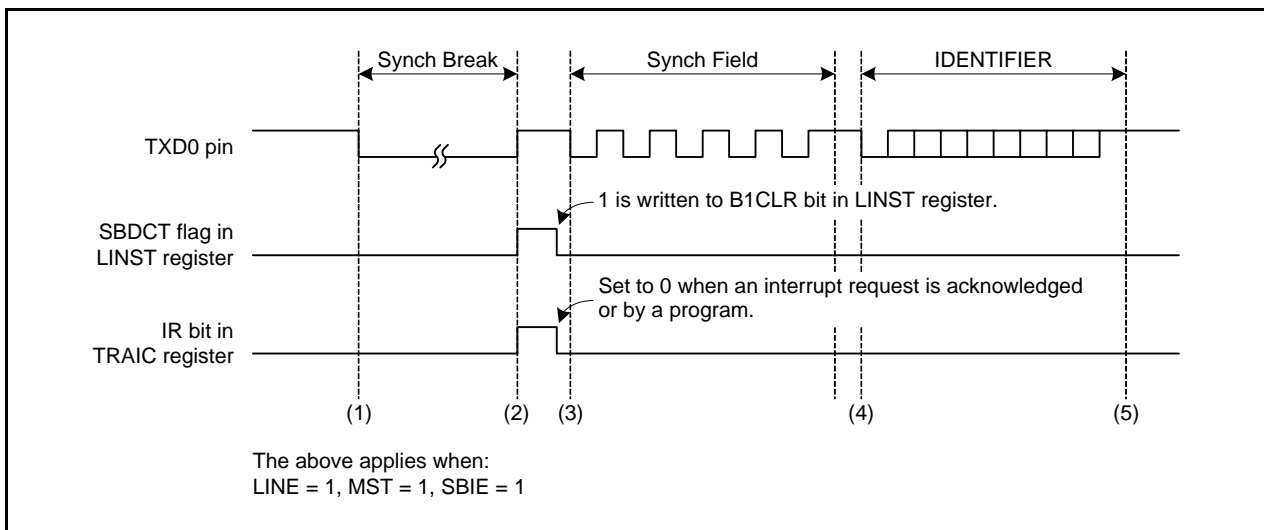
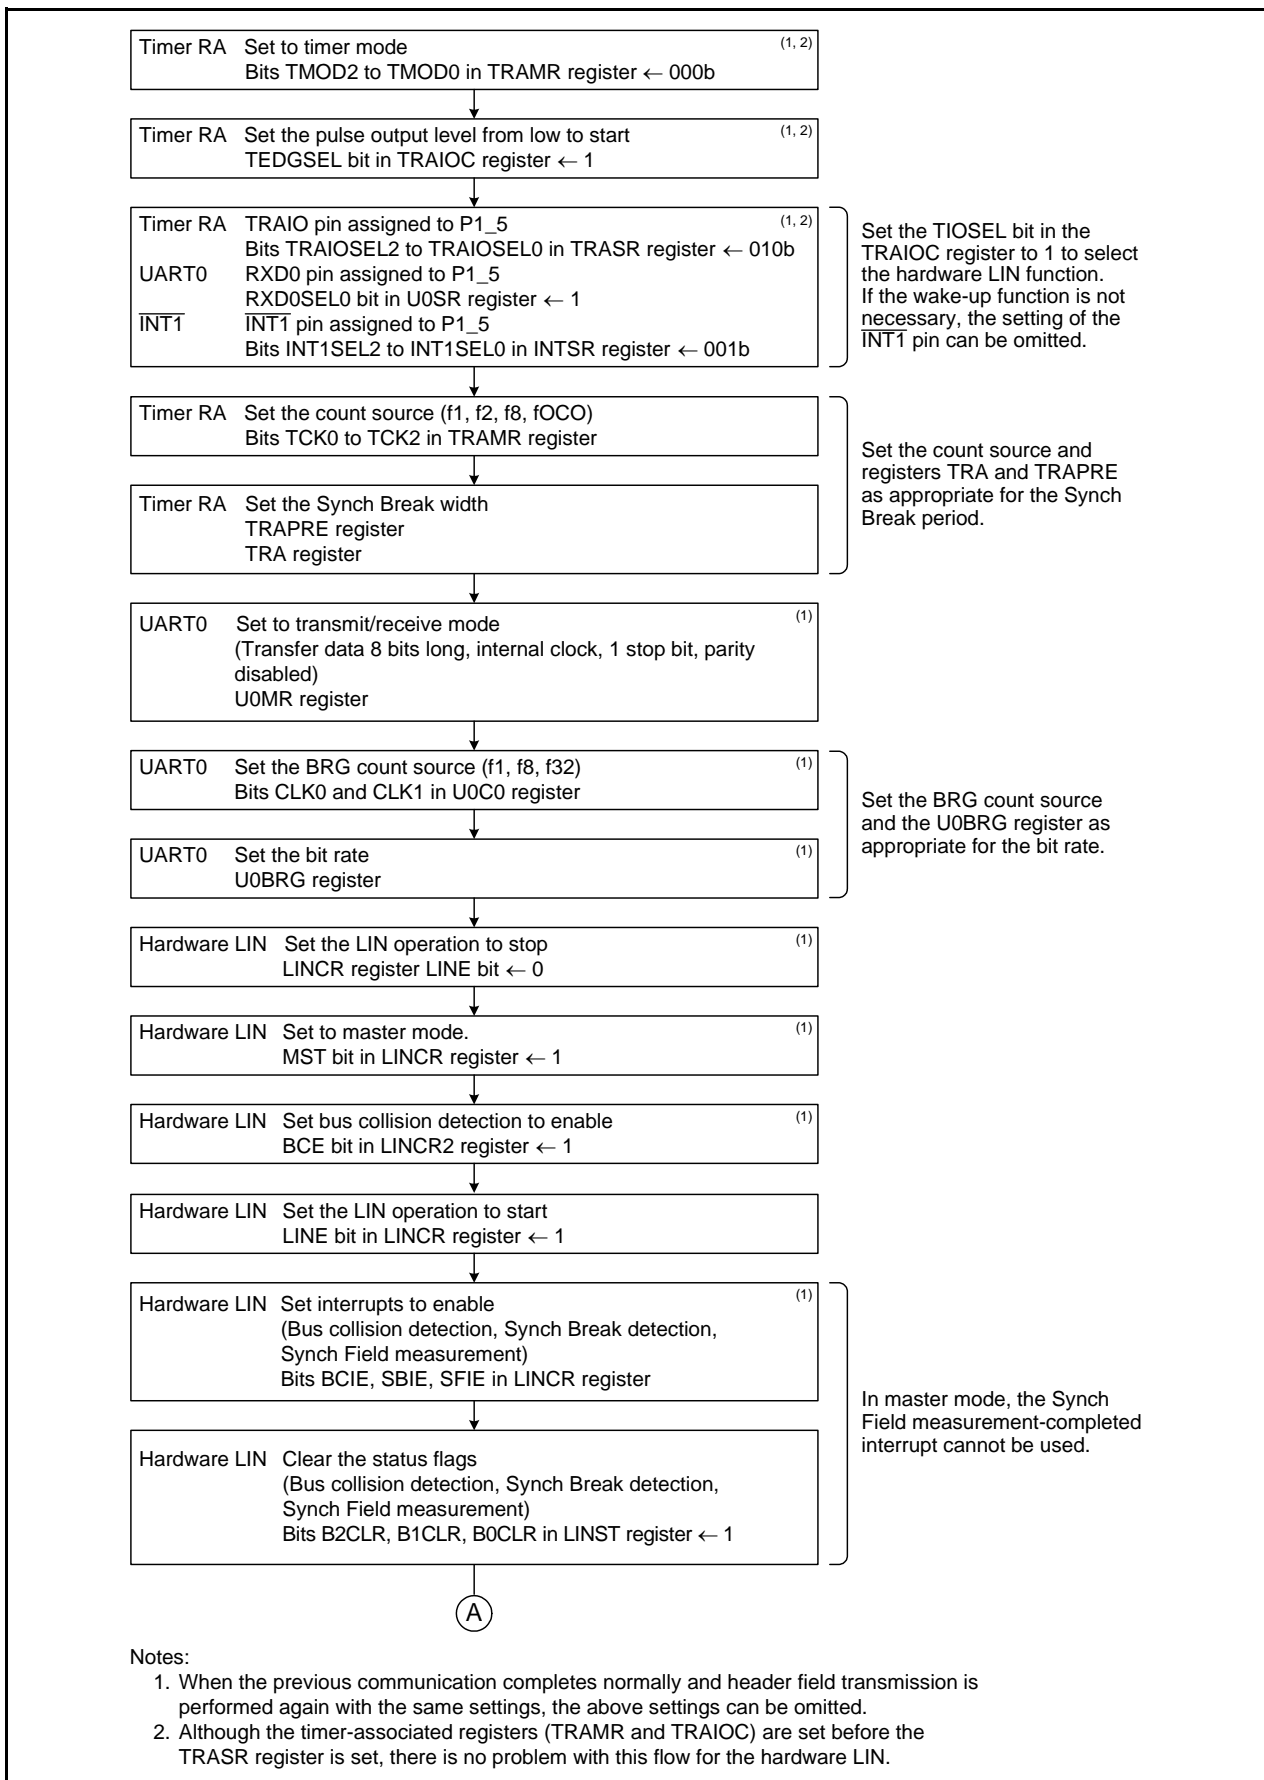
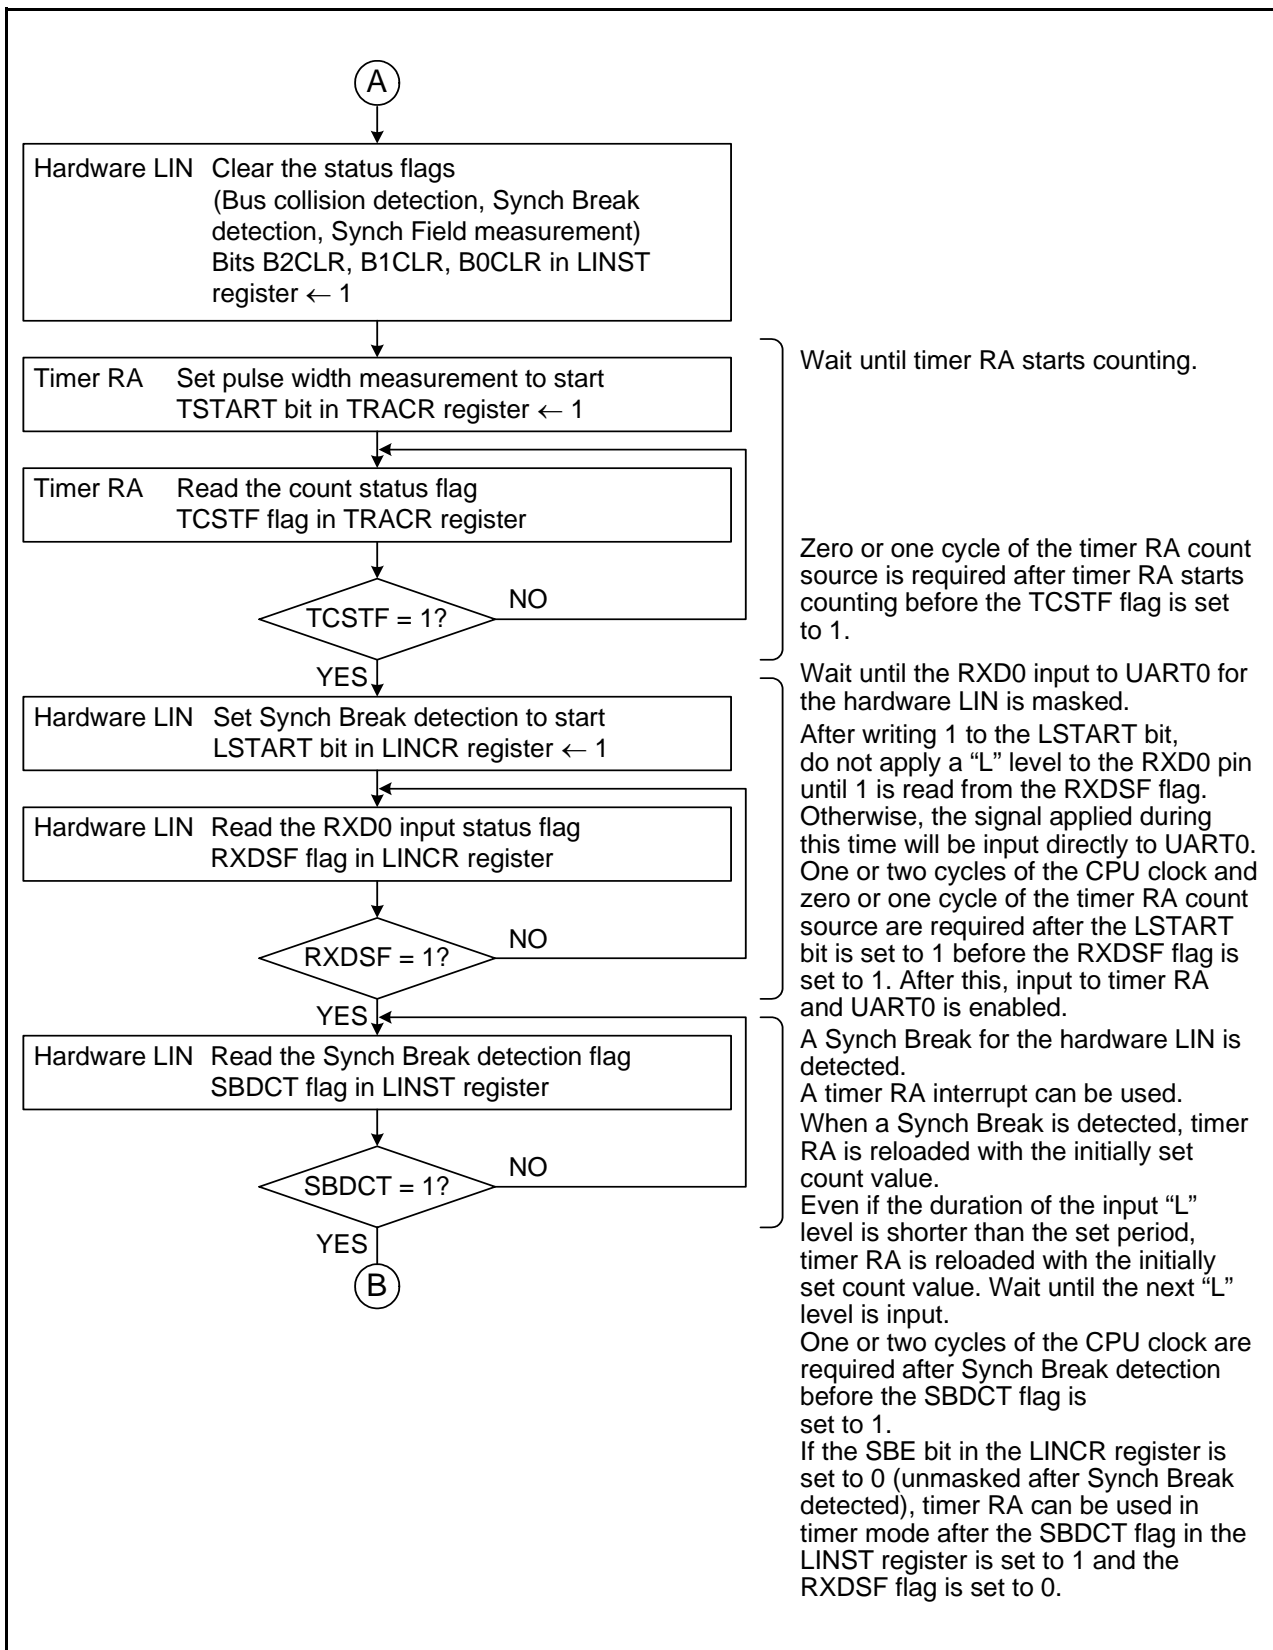

Figure 26.2 Operating Example during Header Field Transmission
Figure 26.3 Header Field Transmission Flowchart Example (1)
Figure 26.7 Header Field Reception Flowchart Example (2)
3. Inputs to timer RA and UART0 are disabled immediately after the LINE bit is set to 1 (LIN operation starts) (refer to **Figure 26.3 Header Field Transmission Flowchart Example (1)** and **Figure 26.7 Header Field Reception Flowchart Example (2)**).
Figure 26.2 shows an Operating Example during Header Field Transmission in master mode. Figures 26.3 and 26.4 show Examples of Header Field Transmission Flowchart.